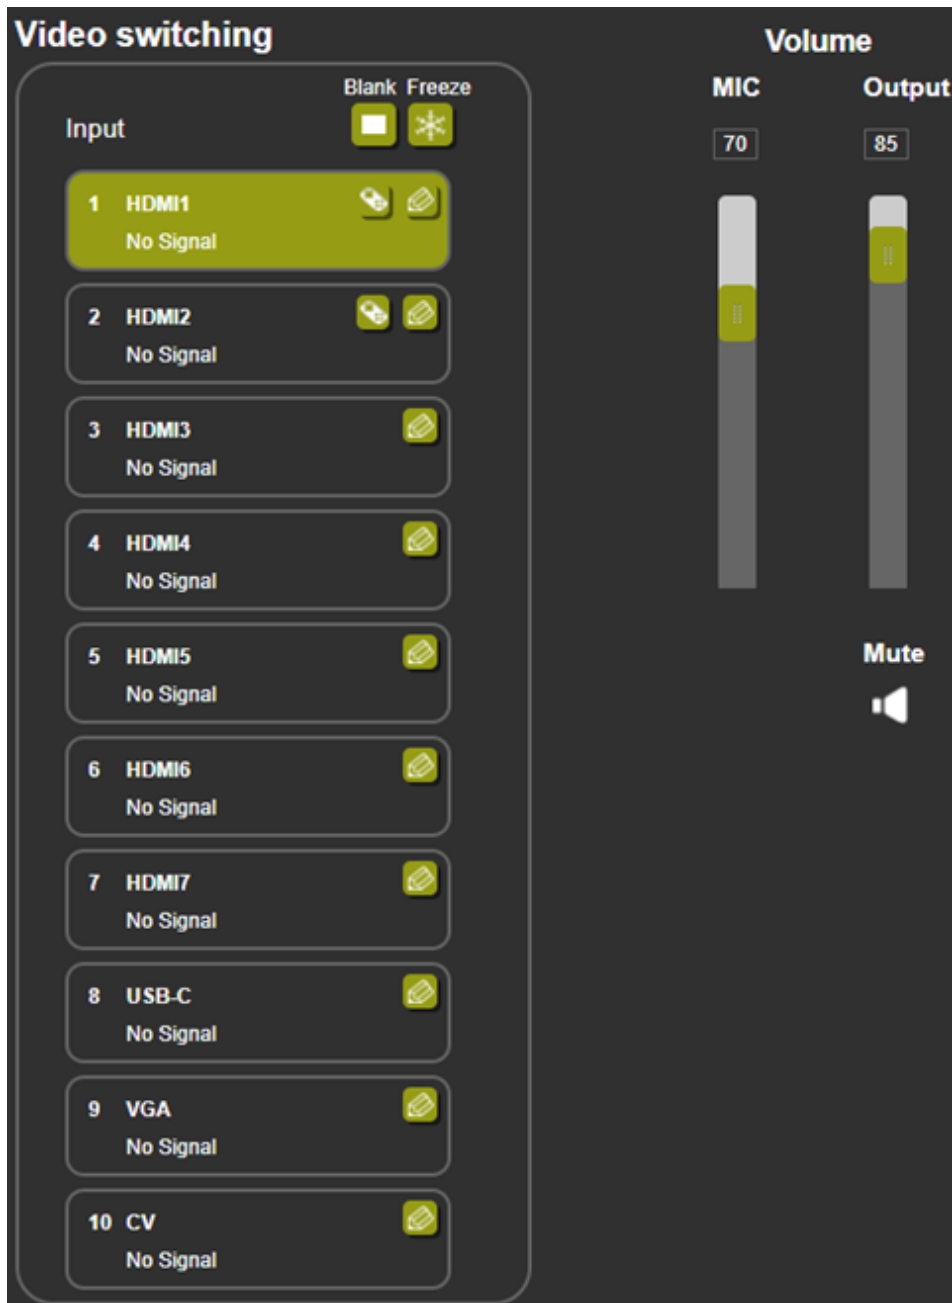

Figure 14: Input Select Page
1. In the Navigation pane, click **Input Select**. The Input Select page appears (see Figure 14).